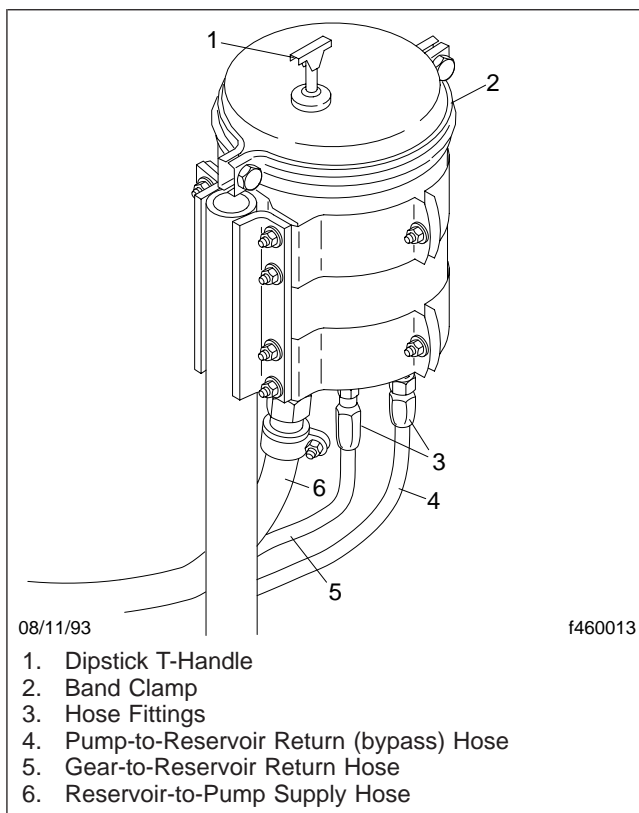
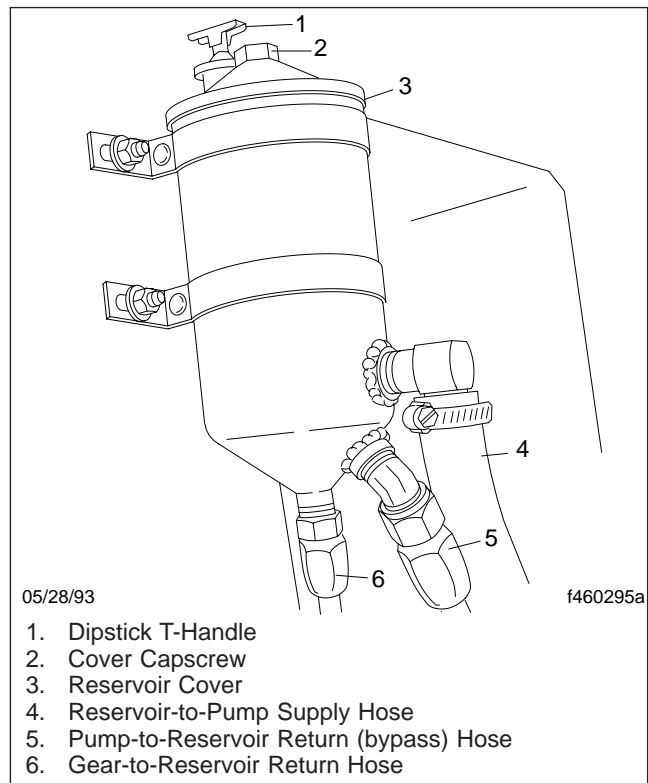

Fig. 9, 9-Quart Power Steering Reservoir, 3-Line
Fig. 10, 2-Quart Power Steering Reservoir, 3-Line
- For a 9-quart power steering reservoir, remove the dipstick, band clamp, cover O-ring, and cover. See **Fig. 9**.
For a 3-line system, drain the power steering reservoir by disconnecting the steering gear-to-reservoir return hose from the reservoir, and catch the fluid in a drain bucket. Disconnect the power steering pump-to-reservoir return (bypass) hose from the reservoir fitting. Remove the fitting from the reservoir, and connect it to the bypass hose, then cap the bypass hose fitting and both reservoir ports. See **Fig. 9** or **Fig. 10**.